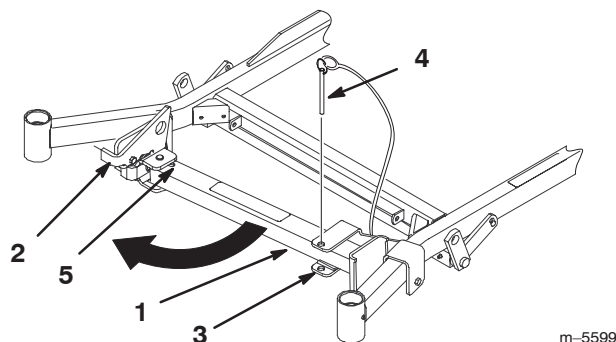

Figure 29
2. Remove the bracket pin (Fig. 29).
3. Raise the latch. Swing the stand foot out front and slide stand toward machine, into the bottom of slot (Fig. 29 and 30).
5. Return the stand to its rest position (Fig. 29).